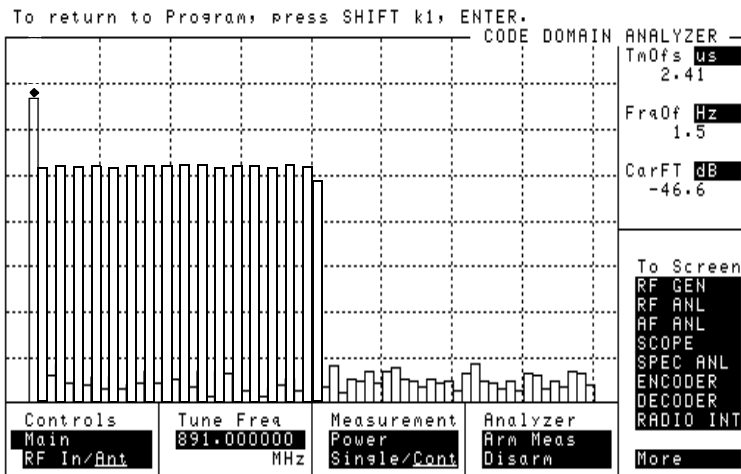

Figure 11
- 6 If the signal is correlated, you should see a display similar to that of figure 11, showing the pilot channel's level (Walsh 0) and any other Sync, Paging, or Traffic channels that are active.